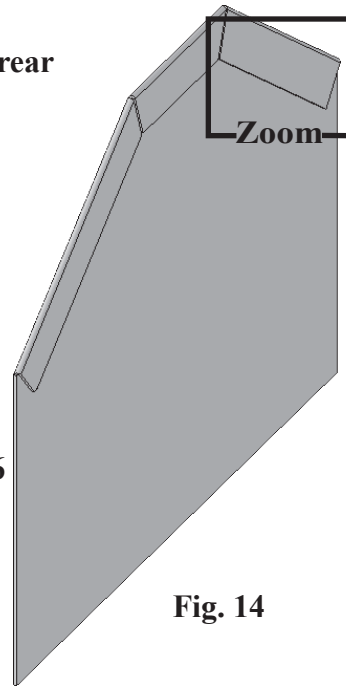

Fig. 14
Step 1. Use F key to zoom out and zoom back in on **rear corner of hem**, Fig. 14.